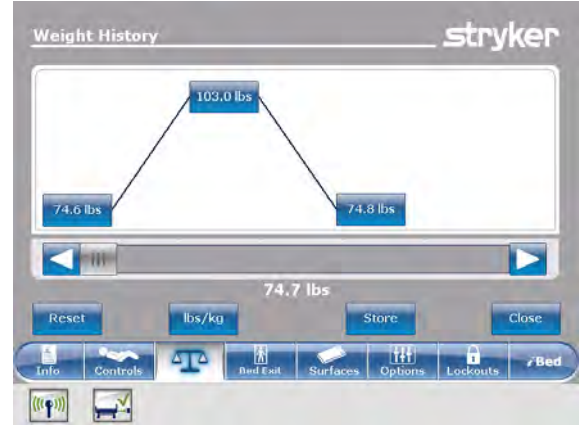

Figure 27: Weight history
To reset the stored weight histories, tap **Reset** (Figure 27 on page 47).
To change the displayed measuring unit, tap **lbs/kg** (Figure 27 on page 47).
To store the current weight reading, tap **Store** (Figure 27 on page 47).
To return to the **Scale** screen, tap **Close** (Figure 27 on page 47).
1. Tap a weight value in the weight history screen (Figure 27 on page 47). Each value displays the time and date of the measurement (Figure 28 on page 47).